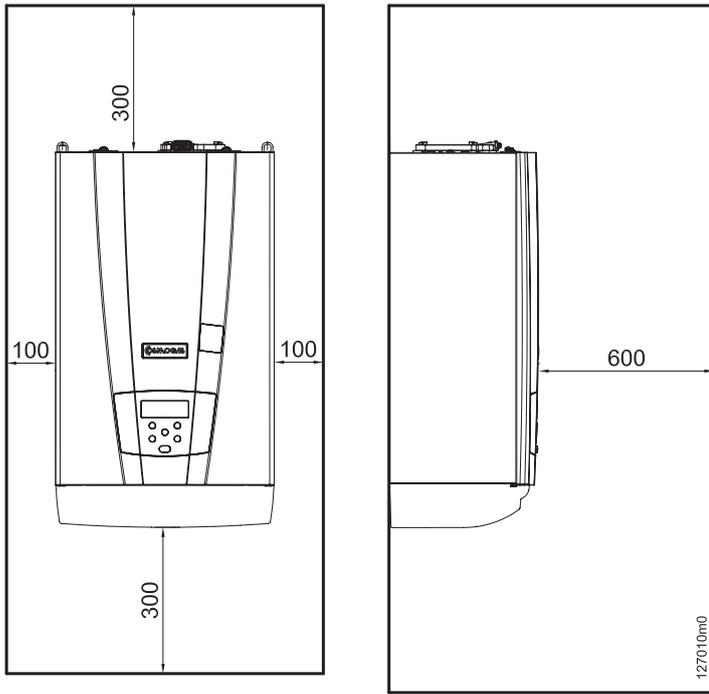

Figure 5.1 - Minimum safety distances
- ☞ Check figure 5.1 concerning the minimum safety distances for installation and future maintenance.
It is necessary to leave free spaces around the appliance as illustrated in figure 5.1 both for installation and maintenance.